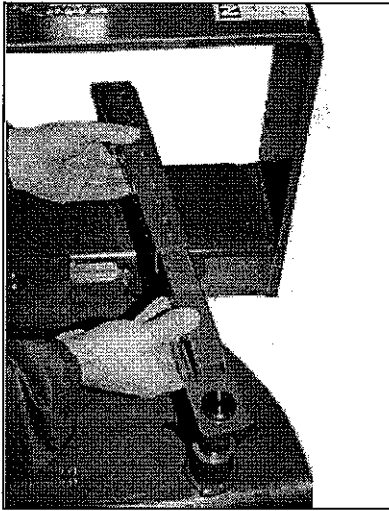

figure 11
- b. Place tubes on large pins welded to the mounting assembly (figure 11). The tube with 1 hole goes on the half-moon swing plate.